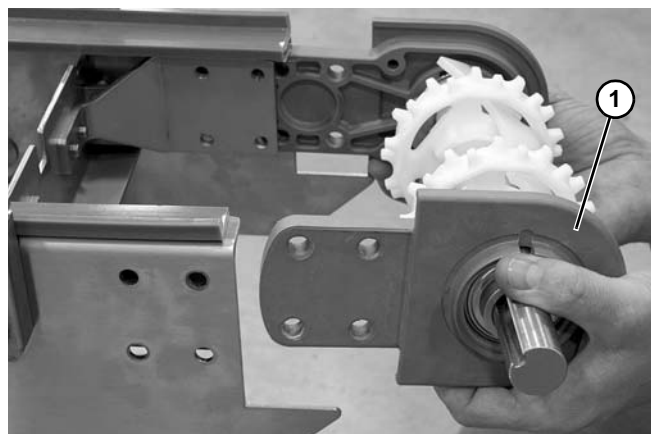

Figure 49
6. Remove the tail assembly (Figure 49, item 1).